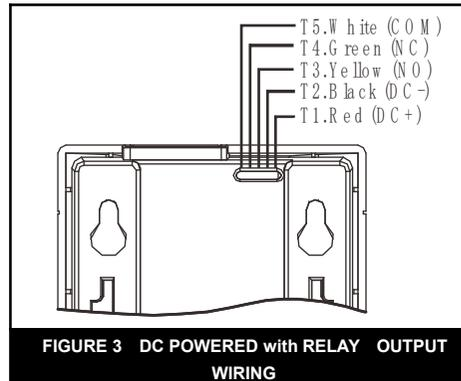

FIGURE 3 DC POWERED with RELAY OUTPUT WIRING
2. The DC power supply module use terminal T1 (Red) and terminal T2 (Black) as power input. Relay output module has NO/NC/COM output Please see figure 3
- Alarm: While detecting the gas leaking reach the alarm level, the sensor Red Alarm LED would turn on and the buzzer sound urgently(for gas sensor alarm, beep 0.5S ON/0.5S OFF, for the CO gas sensor alarm, beep 4 times and then stop 5 seconds, and so on). while the unit's will output relay contacts output(relay output module), or output signal for electric valve or electric hand. (See Figure3,4).